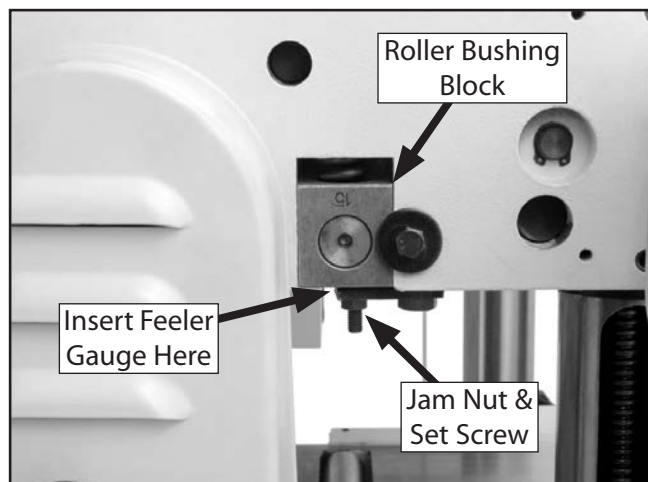

Figure 59. Feeler gauge location for adjusting roller height using wood blocks.
10. Loosen jam nuts and set screws on each side of infeed roller (see **Figure 59**).
11. Using a feeler gauge, adjust set screw so it is 0.040" from roller bushing block (see **Figure 59**), then tighten jam nut. Repeat on other side of infeed roller.